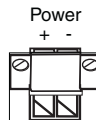

Figure 9. Terminal block power connection
- The power connection to the CL1314MDE is a terminal block (see figure 9).